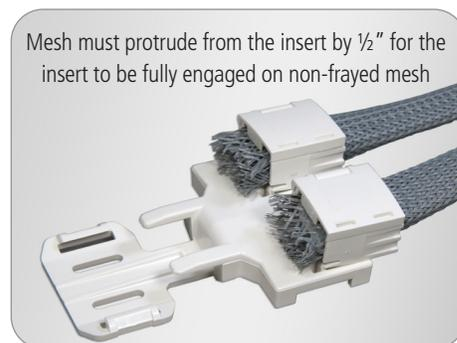

Figure 20
12. Pull mesh to fully engage retention insert with at least 1/2" exposed beyond clip (**Figure 20**).